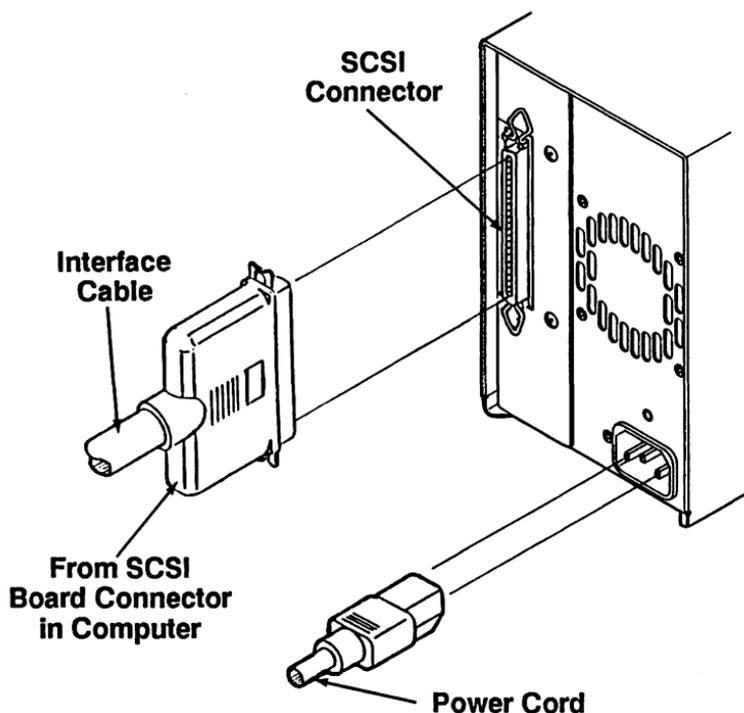

Figure 6. Connecting Your External Tape Unit
2. Connect one end of the interface cable to the D-sub connector on the SCSI board and the other end to the D-sub connector on the tape drive. See Figure 6.